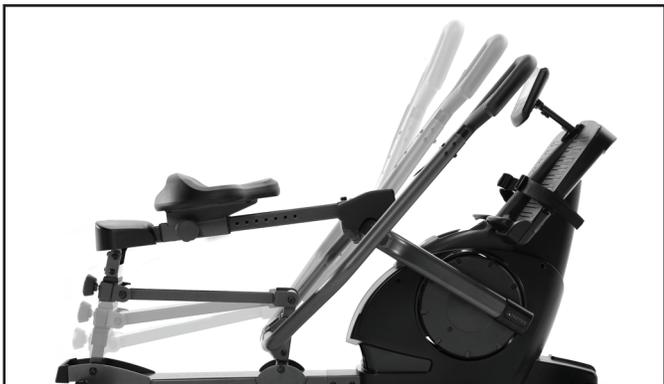

Figure 32
Figure 32: The handles can be adjusted into three (3) settings to control their depth of movement at the finish of the stroke. Once you find your seat setting, you'll want to test the handle setting to fit your body type and amount of layback (lean of the upper body) you desire. The A setting offers the greatest movement; the C setting offers the least.